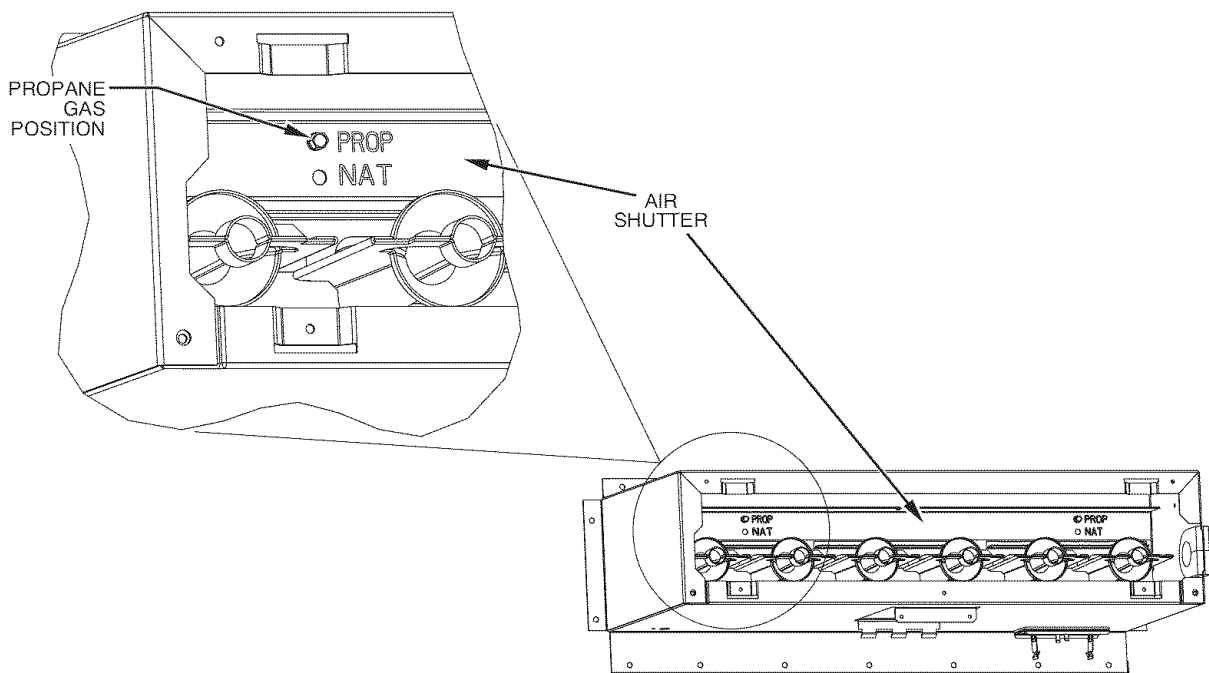

Fig. 4 - Air Shutter in Propane Gas Usage (PROP) Position
1. Reposition air shutter to propane gas usage (PROP) position. (See Fig. 4). Screws will now be located in the shutter next to the PROP stamp.